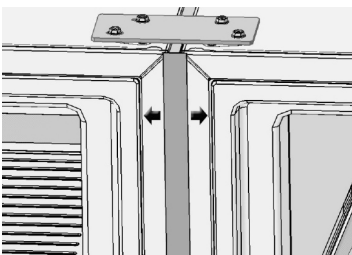

Fig. 17
- Adjust the proximity of the units as needed to centralize the middle trim. Start by fastening the screws on top 1H bracket in order to evenly space the Center Trim (Fig. 17).